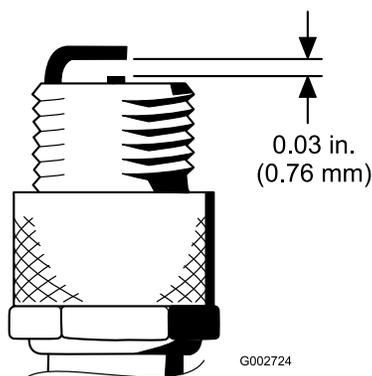

Figure 45
- Set the air gap between the center and side of the electrodes at 0.76 mm (0.030 inch) (Figure 45).